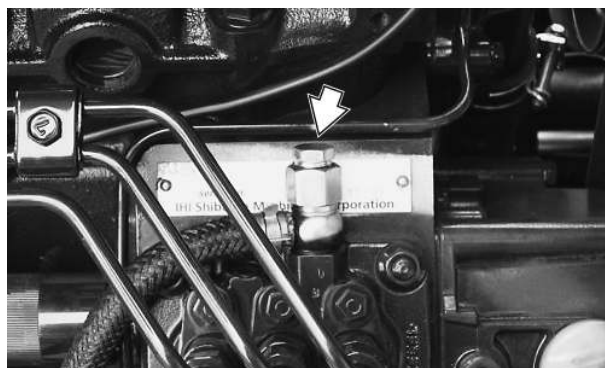

Figure 53 - Fuel System Bleed Screw
3. Open the bleed screw, Figure 53 and let the air bubbles escape from the strainer, then close the bleed screw.